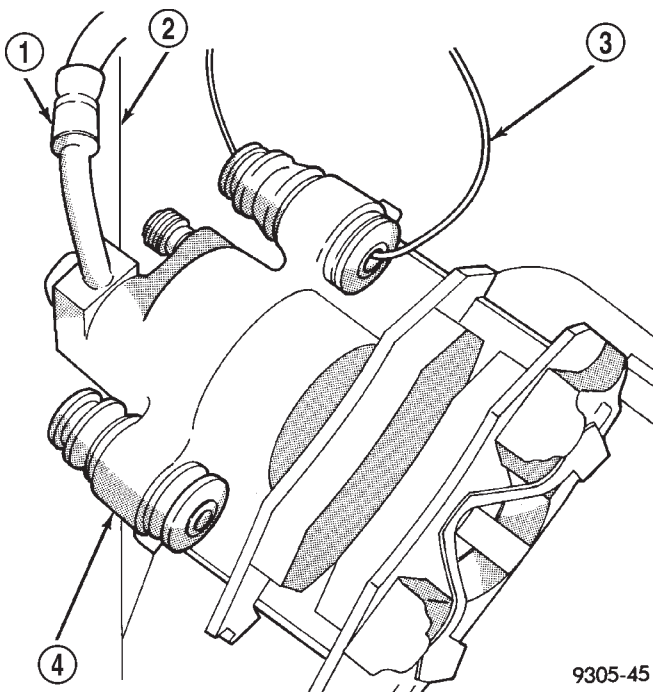

Fig. 96 Storing Caliper
(5) Support caliper from rear strut to prevent weight of caliper from damaging the flexible brake hose (Fig. 96).